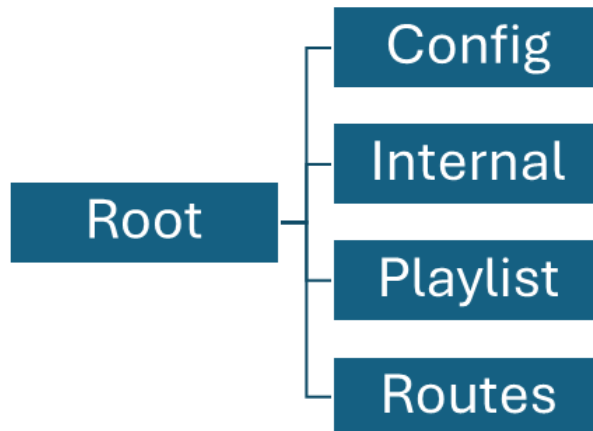

Figure 1—VAM Directory Structure
The directory structure of the SD card is static, explicitly defined, and contains four (4) directories. Do not rename or adjust the directory structure which is detailed in Figure 1.